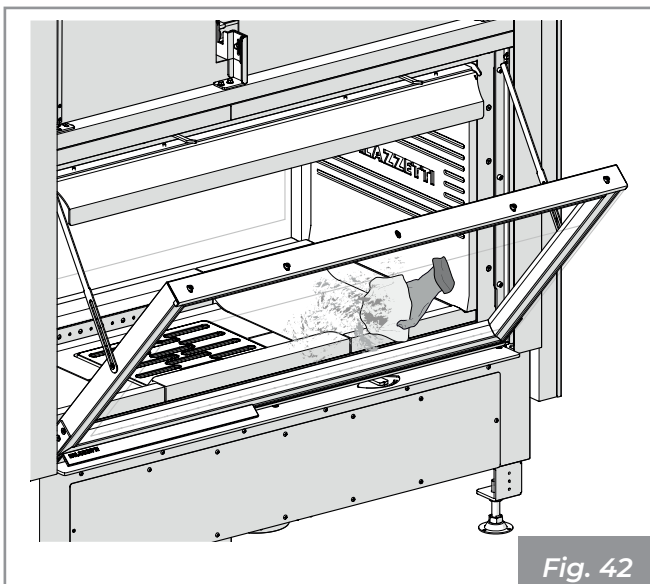

Fig. 42
- 3) Clean the glass with a damp cloth or with paper moistened and dabbed in the ashes (Fig. 42). You can also use detergents suitable for cleaning kitchen ovens.